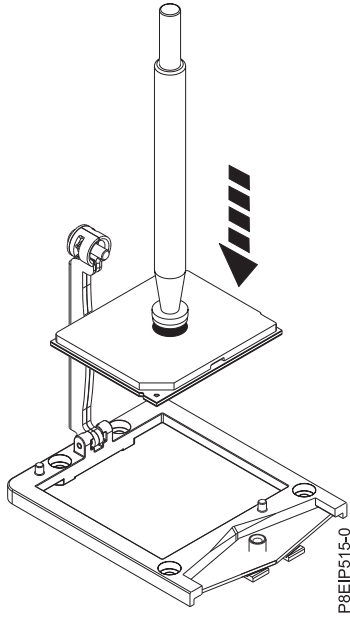

Figure 37. Lowering the processor into the socket
- a. Lower the pen and system processor module onto the socket as shown in Figure 37 on page 37. Align the beveled corner of the processor with the beveled corner on the socket. Use care to lower the tool evenly without tilting the processor.